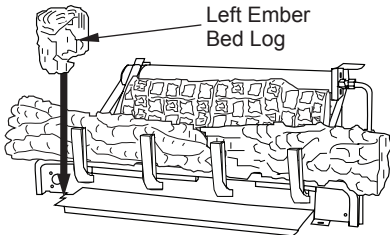

Figure 36 - Installing Left Ember Bed Log
- Place left ember bed log as shown in Figure 36. The log has groove on one side that sets on the ember bed pan. The back side of this log needs to rest against the front of the base assembly. Make sure the flame from the ember pan does not touch the ember bed log.